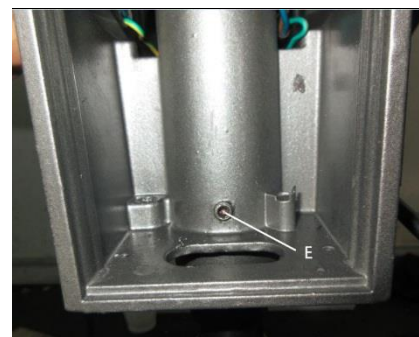
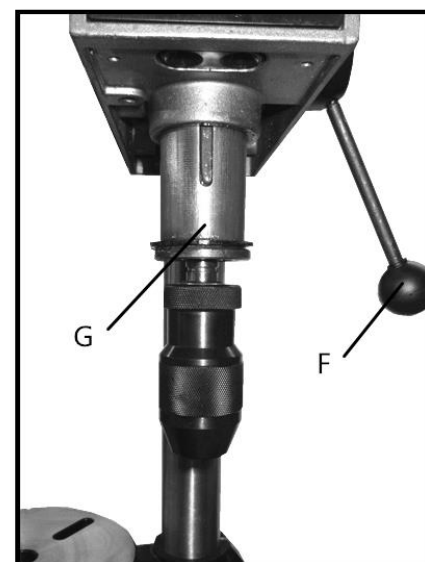

Fig 14
Fig 15
- (iv) Loosen the set-screw (E, Fig 14) until it is off the keyway on the spindle (G, Fig 15)
- (v) Roll down the spindle by swivelling the handle (F, Fig 15) until the spindle (G, Fig 15) being off the gear. Then keep swivel down the handle to increase the bouncing back force, decrease in otherwise.
- (vi) Hold the handle (F, Fig 15) when the adjustment of bouncing back force is done, then push back the spindle (G, Fig 15) in position and conversely follow the steps from (iv) to (i) to recovery the assembly. The parallelism of spindle and motor pulley has to be within 1mm.